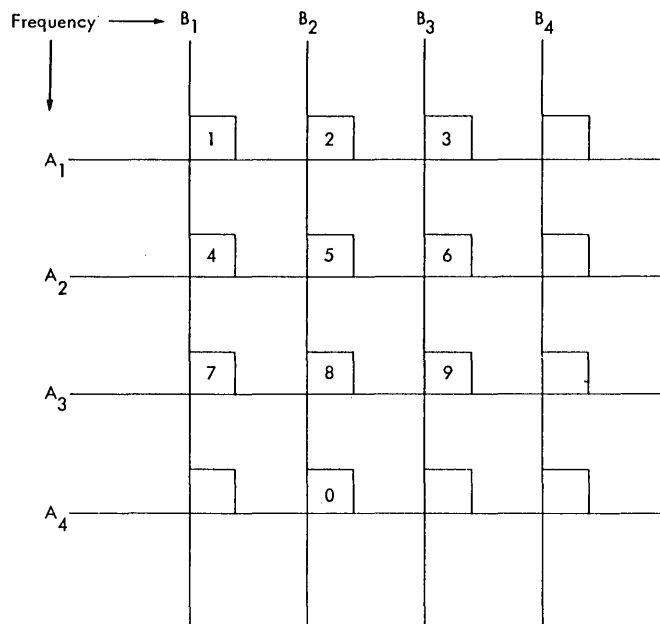

FIGURE 2-5. TONE DIALING DIGITS
Tone dialing uses eight different frequencies, generated by a small transistor oscillator circuit in the subscriber telephone set. See Figure 2-5. Suppose you wanted to dial 4265. The depression of the "4" key would cause the generation and transmission of frequencies A2 and B1; similarly "2" key would yield A1 and B2, "6" produces A2 and B3,
4. The frequencies transmitted to represent the digit "5" in tone dialing are: (Refer to Figure 2-5 to answer this question.)